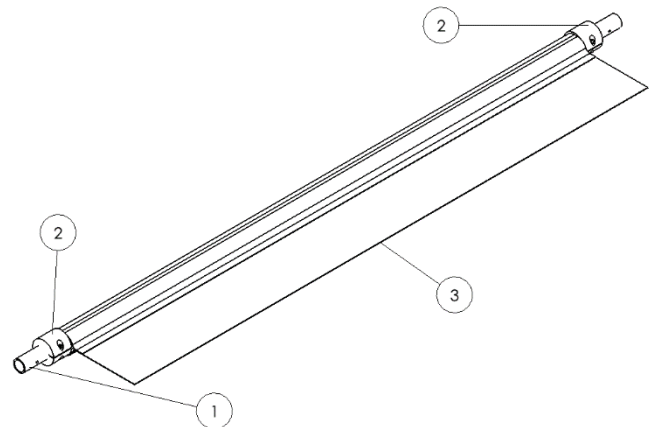

Figure 4.5
On one end of the cross-tube (1) slide on one of the tarp centering flanges (2). Now feed the end of the cross tube without the centering flange through the pocket end of the tarp (3). Place the remaining tarp centering flange on the cross tube as shown in Figure 3.12. Adjust the tarp and centering flange so that the tarp is centered on the cross-tube. Tighten the centering flanges to secure them in place. (Figure 4.5)